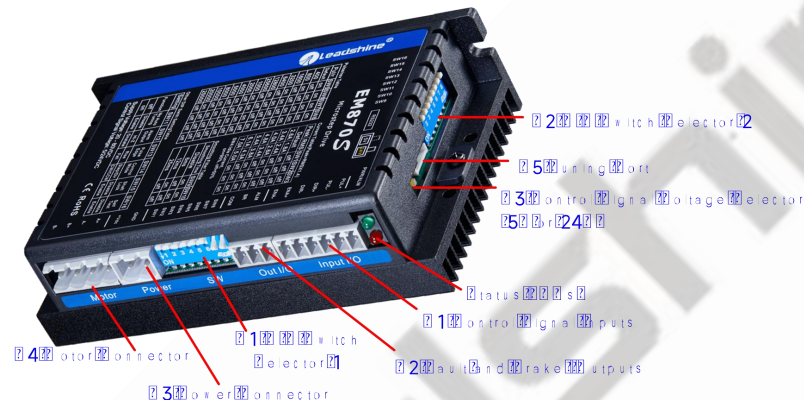

Figure 2 Connectors, DIP switches, and LED locations
DIR- (CCW-)	(4) Single pulse (step & direction) or double pulse (CW/CCW) is set by DIP Switch SW14 (5) DIR signal requires advance PUL signal minimum 5 μs in single pulse mode (6) The activated edge of PUL and DIR is set by DIP Switch SW13 (7) The factory setting of control signal voltage is 24V, must need to set S3 (figure 2) if it is 5V
ENA-	(3) ENA signal requires advance DIR signal minimum 5μs in single pulse mode (4) The default control signal voltage is 24V, to set S3 (figure 2) if it is 5V (5) Enable time to be at least 200ms
The DM870 can accept differential or single-ended control signals (pulse, direction, and enable) in open-collector or PNP connection through the P1 connector (figure 2). It is recommend to add an EMI line filter between the power supply and the drive to increase noise immunity for the drive in interference environments.
The first 8-bit is located on the side (DIP switch selector 1 in Figure 2) and used to configure settings of micro step resolution, output current, and motor standstill current as shown below, the factory setting of SW1-SW8 is OFF, OFF, OFF, OFF, OFF, OFF, ON, ON.
The second 8-bit DIP switch is located on the top (DIP switch selector 2 in figure 2), and used to configure settings of control command filtering time, motor auto-configuration, fault output impedance, pulse active edge, control mode, lock shaft, and self-test as shown below, the factory setting of SW1-SW8 is OFF, OFF, OFF, ON, ON, OFF, OFF, OFF.
The Third 1-bit selector is located on the top (DIP switch selector 3 in figure 2), used to configure the voltage of control signals. For the safety of optically coupled, the factory setting is 24V, which no need to connect 2K resistors like the old drives, making it easier to use. When the voltage of the control signal is 5V, the S3 must be set to 5V, otherwise, the motor won't work.